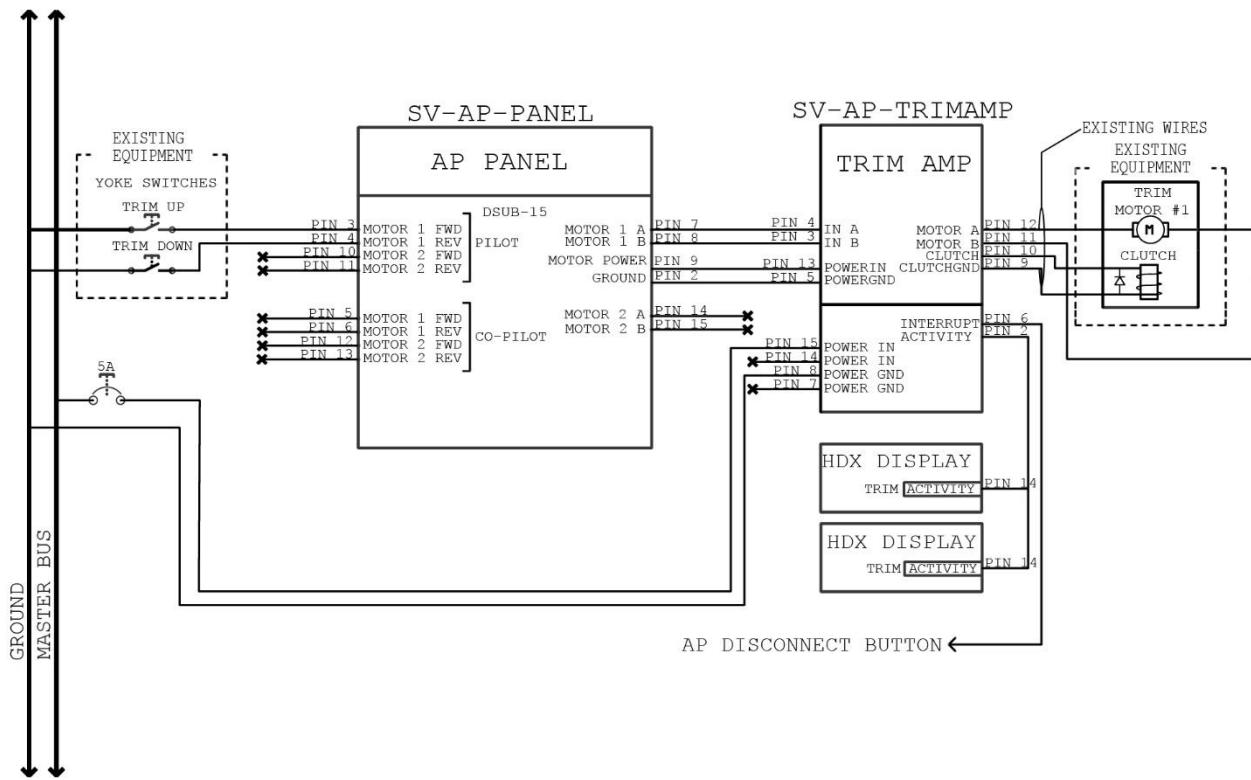

Figure 235: SV-AP-TRIMAMP Electrical Installation for Motor 1 (Motor 2 Similar)
3. Route SV-AP-TRIMAMP harness as follows (also see Figure 235):
5. Use insulated connectors to connect SV-AP-TRIMAMP harness as follows (also see Figure 235):